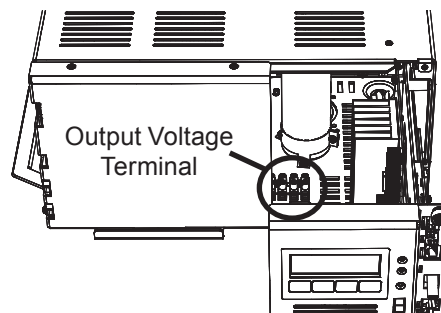

Fig. 2-21, Voltage Terminal Location behind Inverter Module
- To access Output Voltage Terminal, remove the Inverter Module (see Fig. 2-21).